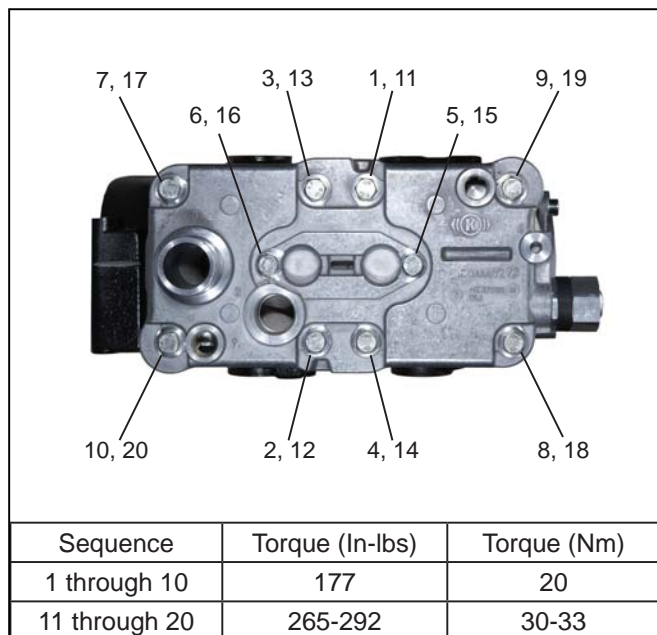

FIGURE 11 - CYLINDER HEAD BOLT TORQUE SEQUENCE
7. Install the eight long hex head cap screws (3) into the cylinder head. **Note: A light film of oil should be applied to the threads of these cap screws prior to installing. Oil should not be applied to any of the other hardware.**
8. Install the two short hex head cap screws (4) into the cylinder head. Important: The two short hex head cap screws (4) must be installed in hole positions designated as sequence "6,16" and "5,15" in Figure 11.
9. "Snug" all the hex head cap screws, then tighten to a torque of between 265 to 292 inch pounds (30-33 Nm) using the torque sequence defined in Figure 11.
10. Install the washer (1) and safety valve (2) in the side (discharge) port identified by the number '2' on the cylinder head (3) as shown in Figure 11, then tighten to a torque not to exceed 66 foot pounds (90 Nm).